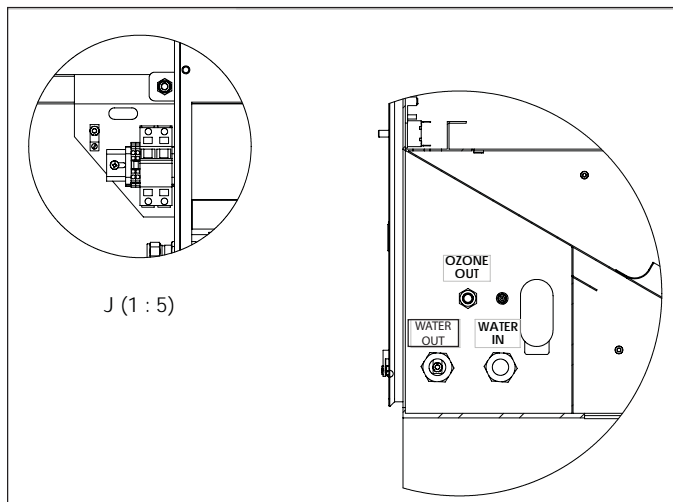
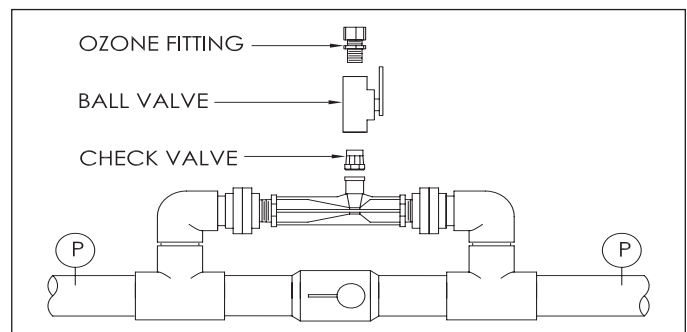

Figure 1: Generator Connectors
Figure 2: Injector Assembly
3. Connect Water In/Out: 1/2" FPT fittings are provided on field connection panel as shown in Figure 1. Plumb the cooling water from a clean, filtered source using copper, Teflon, or PVC tubing. DO NOT USE WATER HIGH IN CHLORIDE! Flow requirements for each unit are listed in the specifications (See chart on inside of cabinet door.)
4. Connect Ozone Out: A 1/4" FPT stainless steel fitting is provided on the field connection panel as shown in Figure 1. Plumb the ozone output to the injector assembly input via a stainless steel ball valve and check valve. See Figure 2. Ozone supply tubing must be constructed of 316 stainless steel or rigid Teflon tubing. Use of any other material will lead to failure of the tubing and cause vacuum loss or allow ozone to escape the system.
5. Electrical Connection: Connect input power and ground to the main circuit breaker and din rail terminal located on the inside of the field connection panel (see Figure 1). Power requirements for each generator are listed in the specifications chart on the inside of the cabinet door.